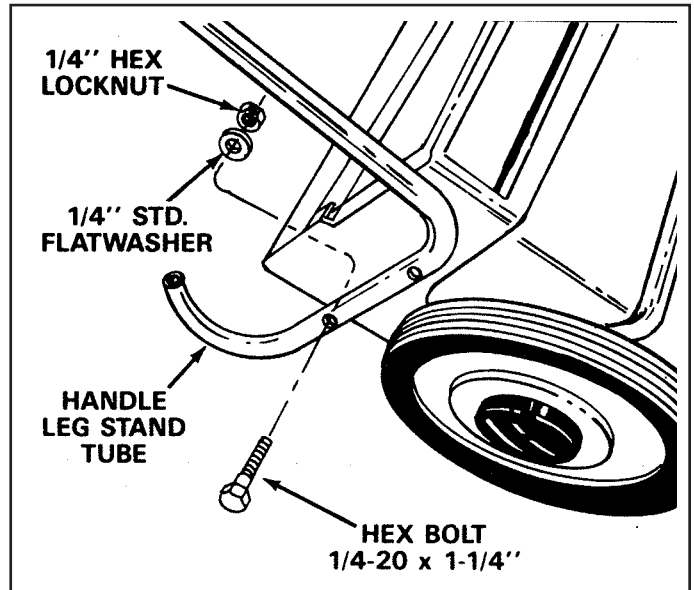

FIGURE 1
1. Assemble the two Handle Leg Stand Tubes to the Sweeper Housing, using two hex bolts 1/4-20 x 1-1/4" long, flat washers and 1/4-20 hex lock nuts, per handle. See figure 1. Only hand tighten at this time.